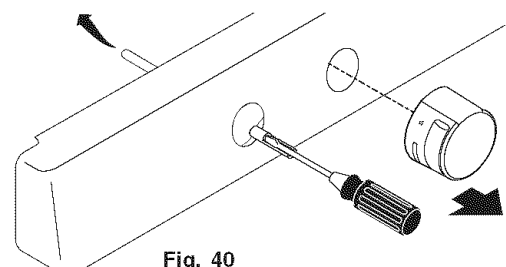

Fig. 40
If burner goes out, reset control to OFF. Remove the burner control knob. Use a thin-bladed screwdriver and adjust the inner burner flame size with the right-hand set screw (See Fig. 40). Adjust the outer burner flame size with the lower set screw (See Fig. 40). Turn counterclockwise to increase flame size. Turn clockwise to decrease flame size. Test to verify if "LO or LOW" setting should be adjusted (right front position ONLY):
5. Use a thin-bladed screwdriver and adjust the inner burner flame size with the right-hand set screw (See Fig. 40). Adjust the outer burner flame size with the lower set screw (some models - See Fig. 40). Turn counterclockwise to increase flame size. Turn clockwise to decrease flame size.